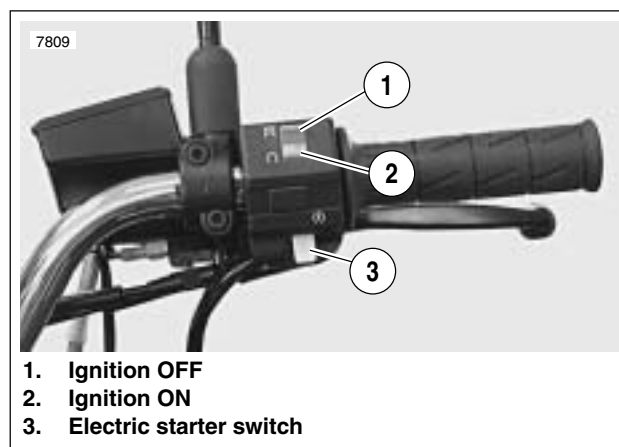

Figure 7-72. Right Handlebar Switches
5. See Figure 7-72. Check handlebar switch for proper operation. If operation fails, reread procedure and verify that all steps were performed.